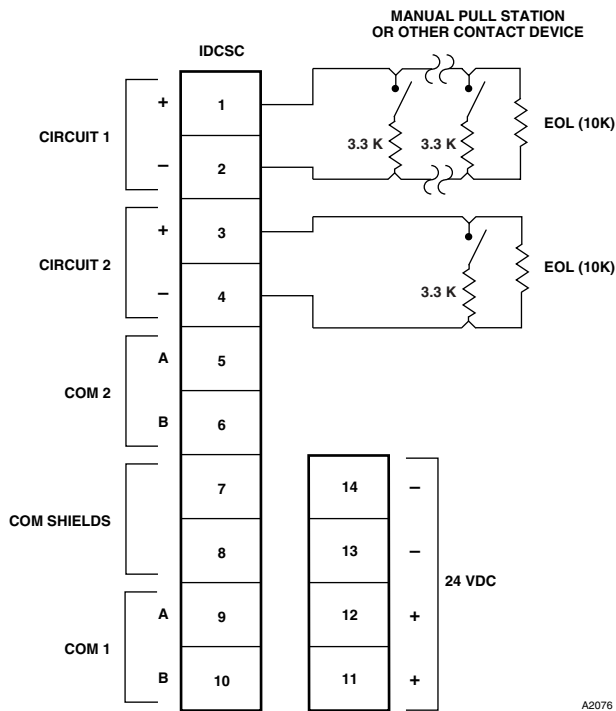

Figure 3-7—IDCSC Terminal Identification
2. Remove the communication module from the junction box. Connect external wiring to the appropriate terminals on device terminal block. (See Figure 3-4 for terminal block location and Figure 3-7 for terminal identification.) The input to the IDCSC consists of one or more normally open switches with a 3.3k ohm series resistor for each switch and a 10K ohm, 1/4 watt EOL resistor in parallel across the last switch.